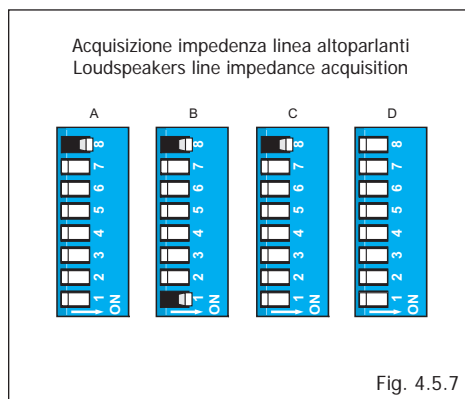

Fig. 4.5.7
2. Operate the dip switch by moving lever **8** to the **ON** position and then lever **1** as shown in Figure 4.5.7.